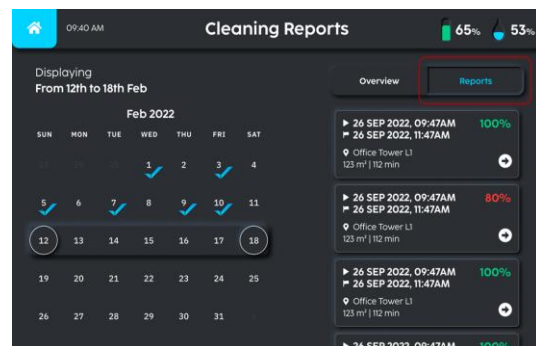

FIGURE 6-15
2. Select the 'Cleaning Reports', and click on the 'Reports' tab (Fig. 6-15).